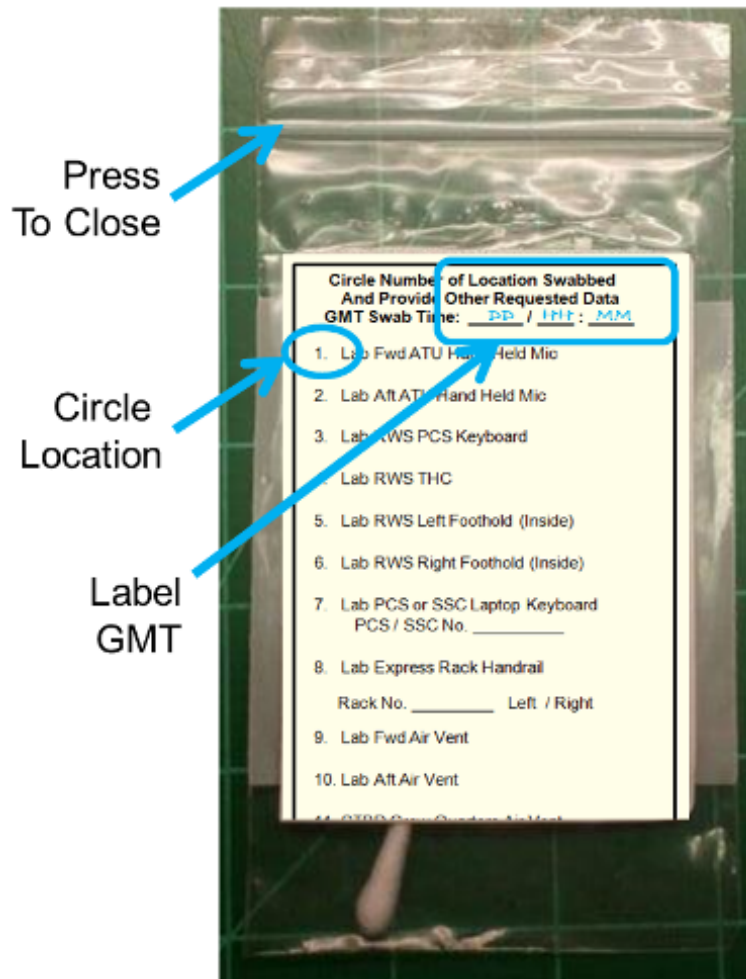

Figure 1. NanoRacks Swab Kit Label
5. Return cotton swab to NanoRacks Swab Kit and press to close (squeeze excess air out of bag before sealing, Figure 1).
Circle number of location swabbed and label with GMT (dd/hh:mm, Figure 1).